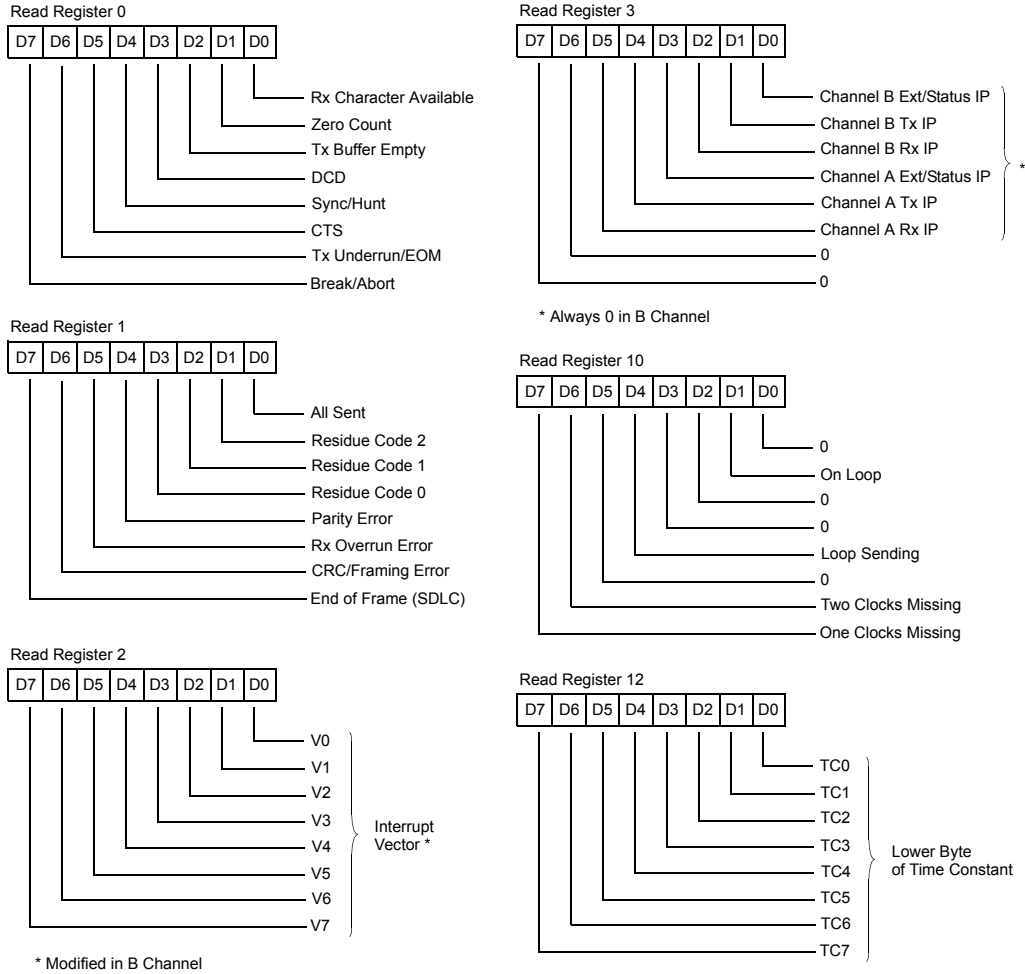
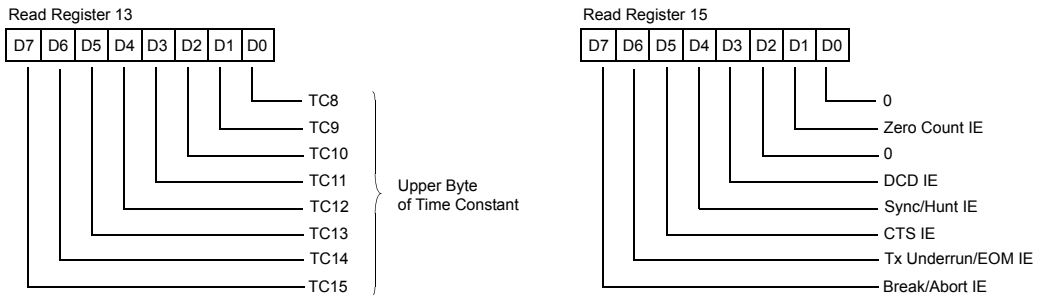

Figure 19. Read Register Bit Functions
Figure 20. Read Register Bit Functions
The SCC contains ten Read registers (eleven, counting the receive buffer (RR8) in each channel). Four of these can be read to obtain status information (RR0, RR1, RR10, and RR15). Two registers (RR12 and RR13) are read to learn the Baud Rate Generator time constant. RR2 contains either the unmodified interrupt vector (Channel A) or the vector modified by status information (Channel B). RR3 contains the Interrupt Pending (IP) bits (Channel A only – Figure 19). RR6 and RR7 contain the information in the SDLC Frame Status FIFO, but is only read when WR15 D2 is set (see Figure 19 and Figure 20).